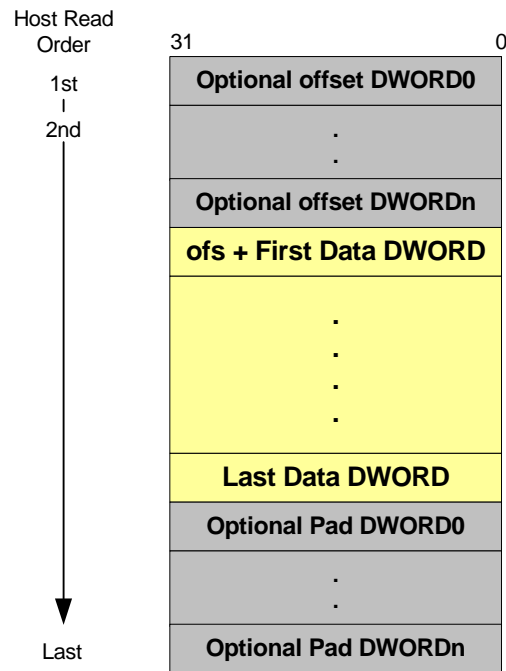

Figure 3.19 RX Packet Format
**Note 3.17** The LAN9115 host bus interface supports 16-bit bus transfers; internally, all data paths are 32-bits wide. Figure 3.19 describes the host read ordering for pairs of atomic 16-bit transactions.